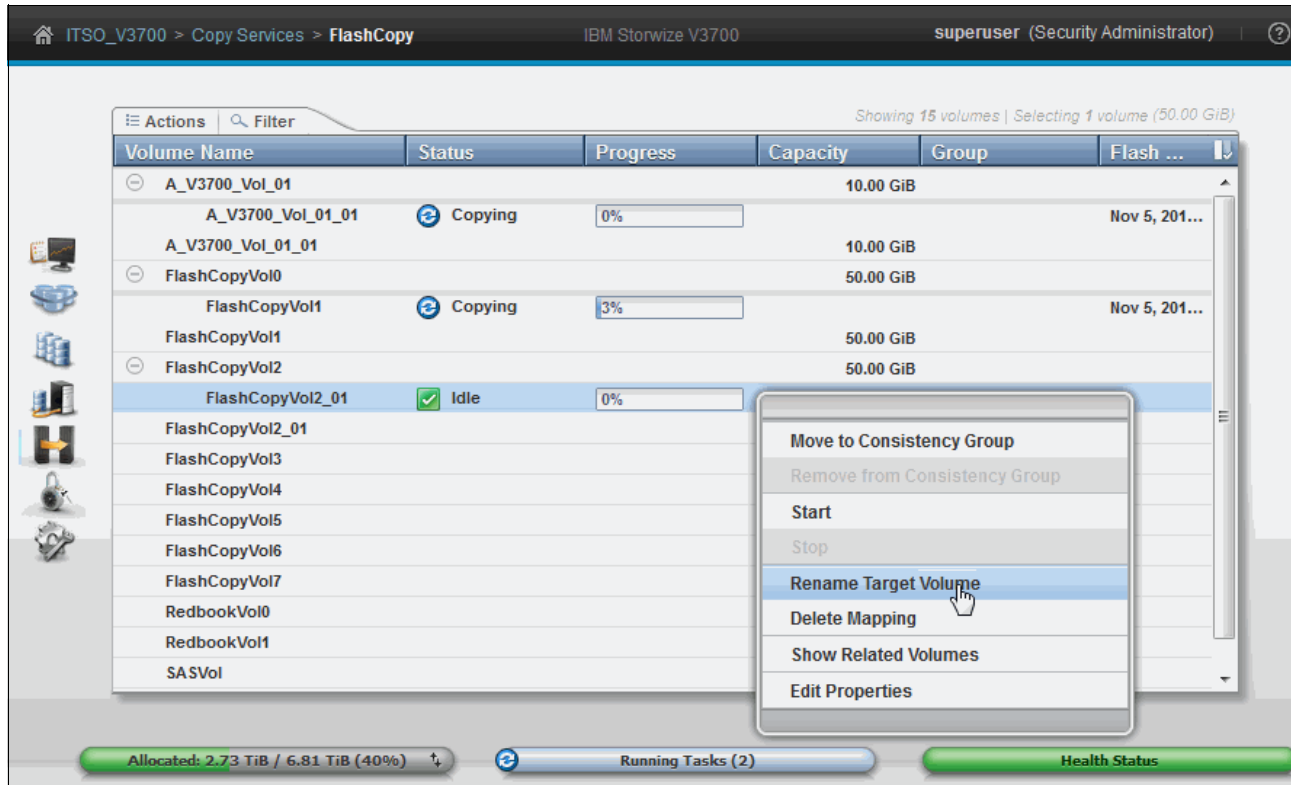

Figure 10-32 Rename a target volume
2. Click the **Rename Target Volume** option from the **Actions** menu (as shown in Figure 10-32), or right-click the selected volume.